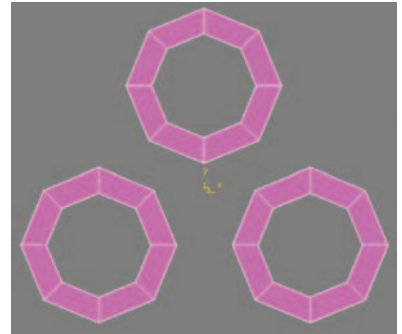

Figure 5.2 Clones arranged evenly. These are currently three separate objects.
2. Convert the TubeCap to an Editable Poly, then shift-drag it to create two clones, one to the side of the original and one to the top. Space the three pieces evenly as seen in Figure 5.2. *Note: Be sure to select Copy, not Instance, when creating the new geometry, otherwise you will not be able to use the Attach tool later on.*